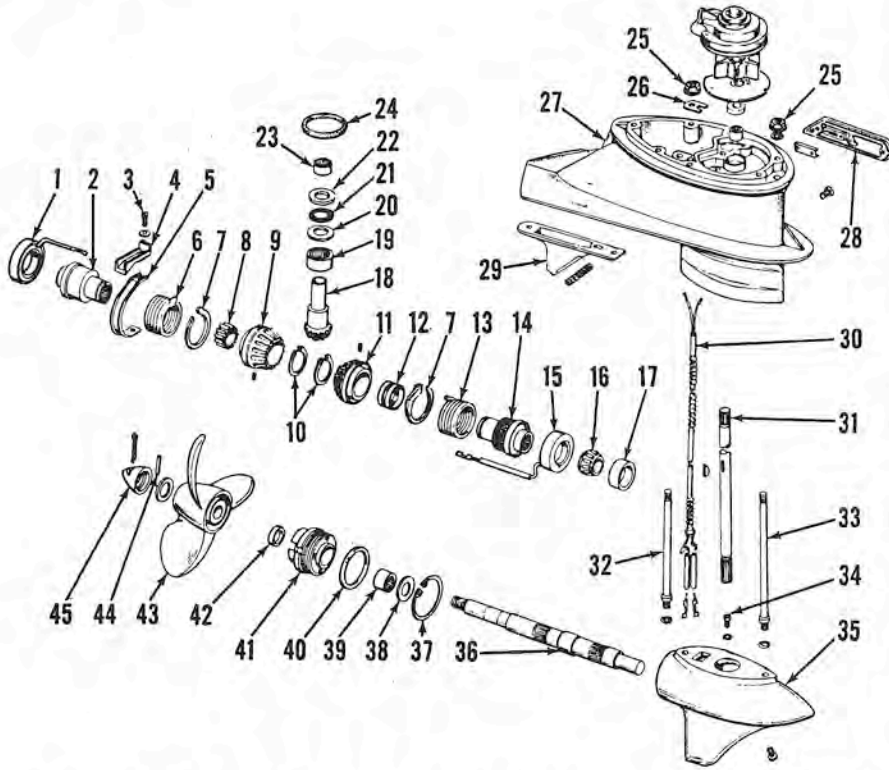

Fig. J116—Exploded view of gearcase and associated parts used on ELECTRAMATIC models.
To disassemble the gearcase, unbolt and remove the water pump and drive shaft, then remove and discard the two stud nuts (25—Fig. J116), retaining lower gearcase to upper housing. New self-locking nuts should be used when reassembling.
Reach down through drive pinion opening with a screwdriver and remove the screw (34) which retains the forward coil lead shield to bottom of gearcase. Refer to Fig. J117. After the screw is removed, insert an internal expanding gear puller into bearing cone (16—Fig. J116), and pull the bearing cone and forward electromagnet (15). Bearing cup (17) can be removed with an internal expanding puller and slide hammer, or by heating the gearcase (35) to approximately 200° F. and jarring cup from housing.